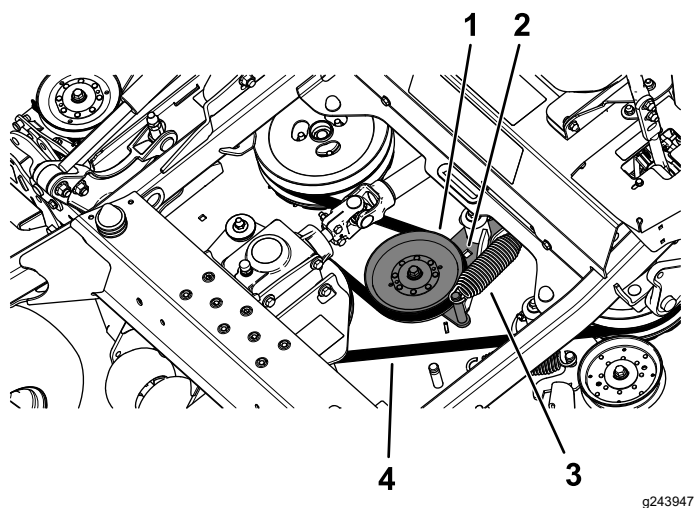

Figure 62
5. Use a ratchet in the square hole in the idler arm to remove tension on the idler spring (Figure 62).
6. Remove the belt from the mower deck pulleys (Figure 62).